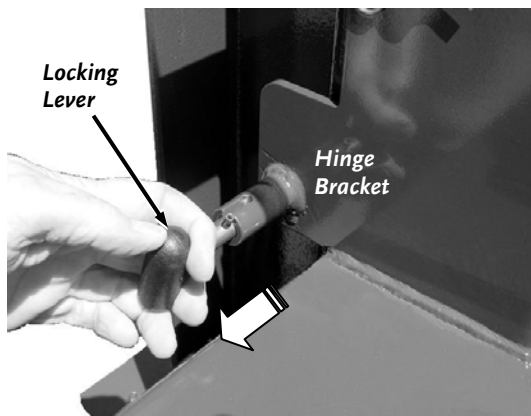

Figure 40
2. Pull the spring-loaded locking lever of the hinge bracket and twist the locking lever either direction to lock it in the “unlocked” out position (**Figure 40**).